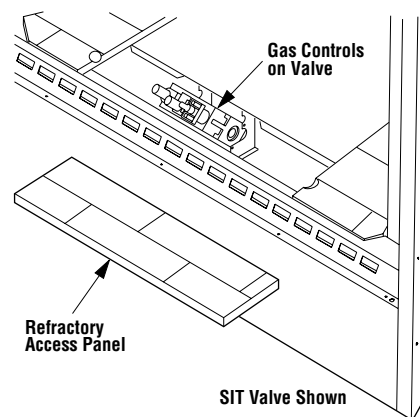
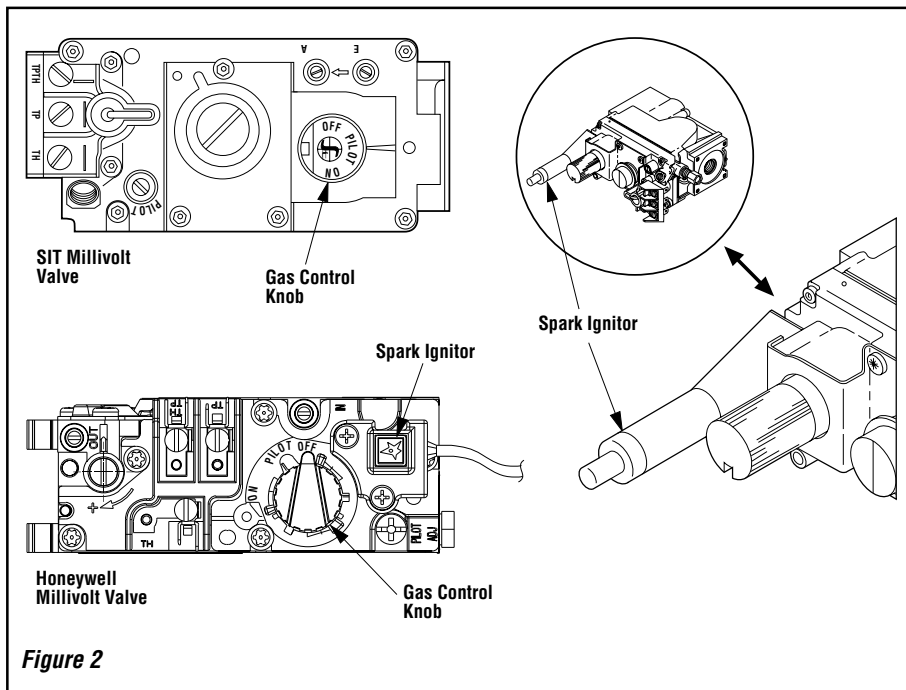
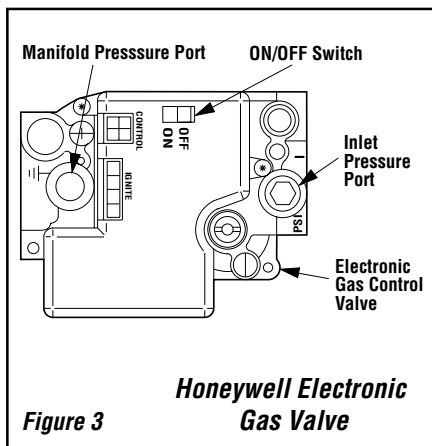

Figure 1
Figure 2
Figure 3
1. Appliance operation may be controlled through a remotely located optional wall switch. Separate switches may provide independent control for the remote controlled fireplace operation (optional equipment). In lieu of remote or remote wall switch operation, the appliance must be operated directly through the controls located on the front of the valve located within the control compartment under the removable refractory access panel, **Figure 1**.
Operation of millivolt and electronic gas control systems are different. Before lighting and operating your appliance determine if you have a millivolt or electronic appliance. Refer to **Figure 1** to access the gas control compartment below the lower refractory panel. Millivolt appliances will be fitted with one of the two gas control valves shown in **Figure 2**. Appliances with electronic systems will be fitted with the electronic valve shown in **Figure 3**. Familiarize yourself with the differing controls for the valve your appliance uses.
To light millivolt appliances refer to the detailed lighting instructions found in both English and French on **pages 10 and 11** of these instructions respectively. **Millivolt and electronic appliance lighting instructions may also be found on the pull out labels attached to the gas control valve located within the gas control compartment.** Refer to **Figure 2** to locate the appropriate location for the spark ignitor used with your appliance.